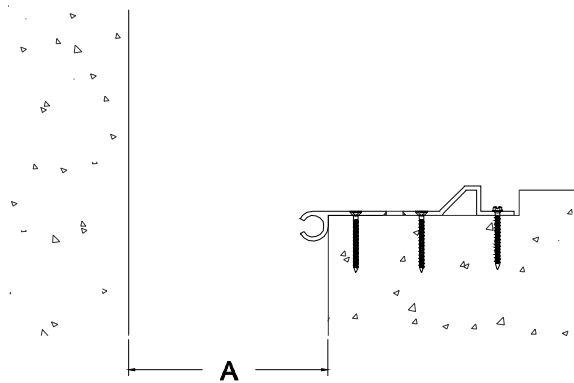

Figure 5
STEP 7. Place the base member back into its installed position, aligning the anchor holes in the base member with the anchor holes in the fire barrier retainers, if applicable, and in the concrete. Ensure that the base member is level, plumb, properly aligned, and flush with the finished floor. Using the anchors provided by the factory, attach the base members to the concrete (see Figure 5).